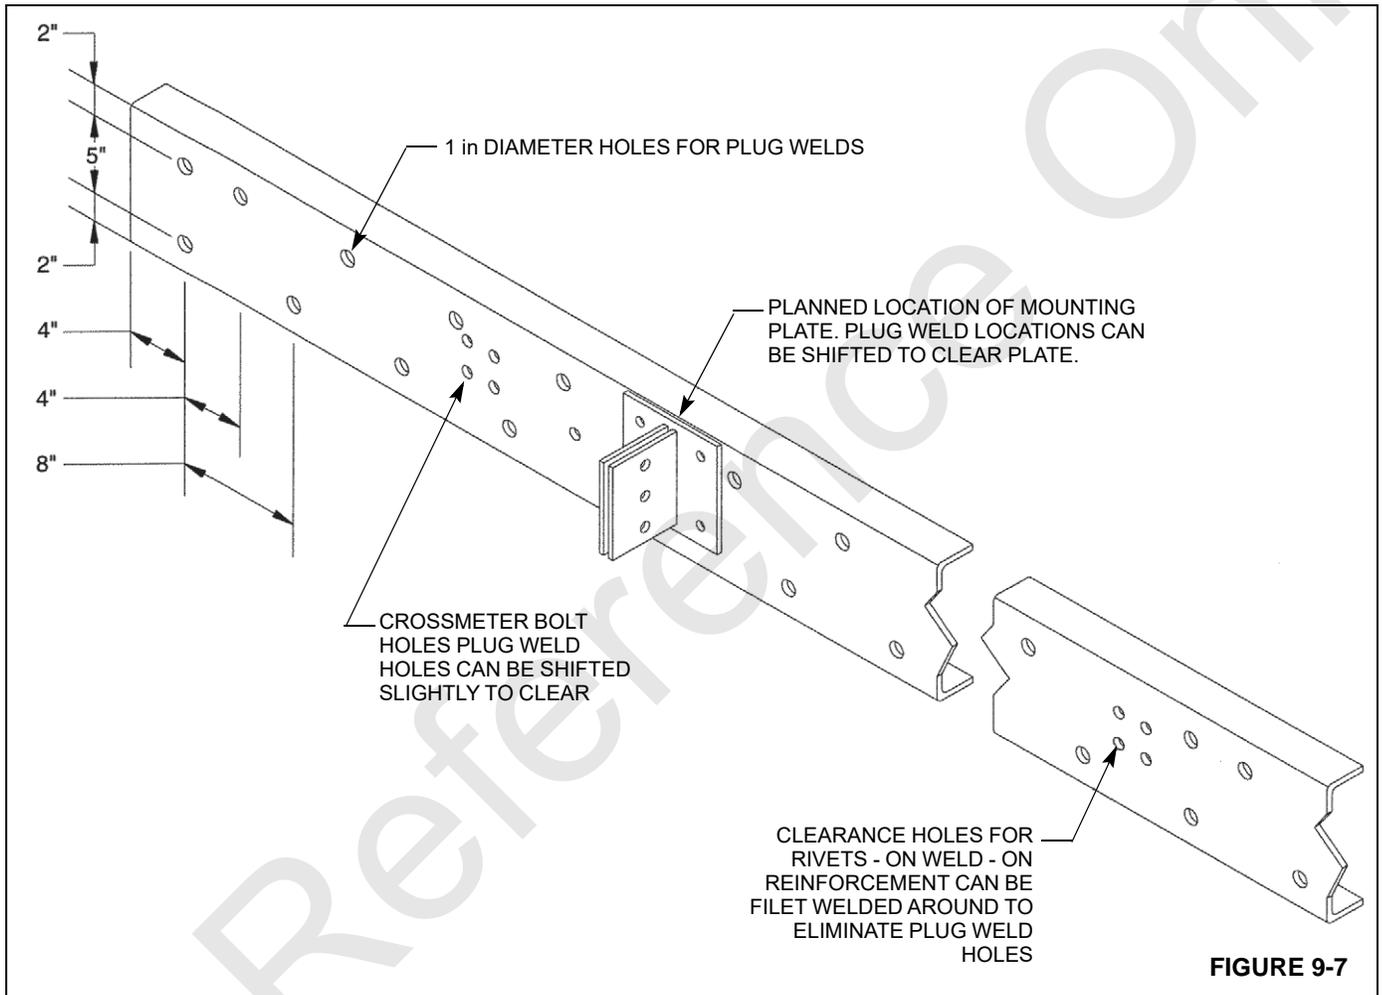

FIGURE 9-7
Install reinforcing, clamp in place, install any crossmember bolts that were previously removed and weld to truck frame as shown in Figure 9-7.
7. If reinforcing angle is to be welded to truck frame, cut out plug weld hole pattern as in Figure 9-7.